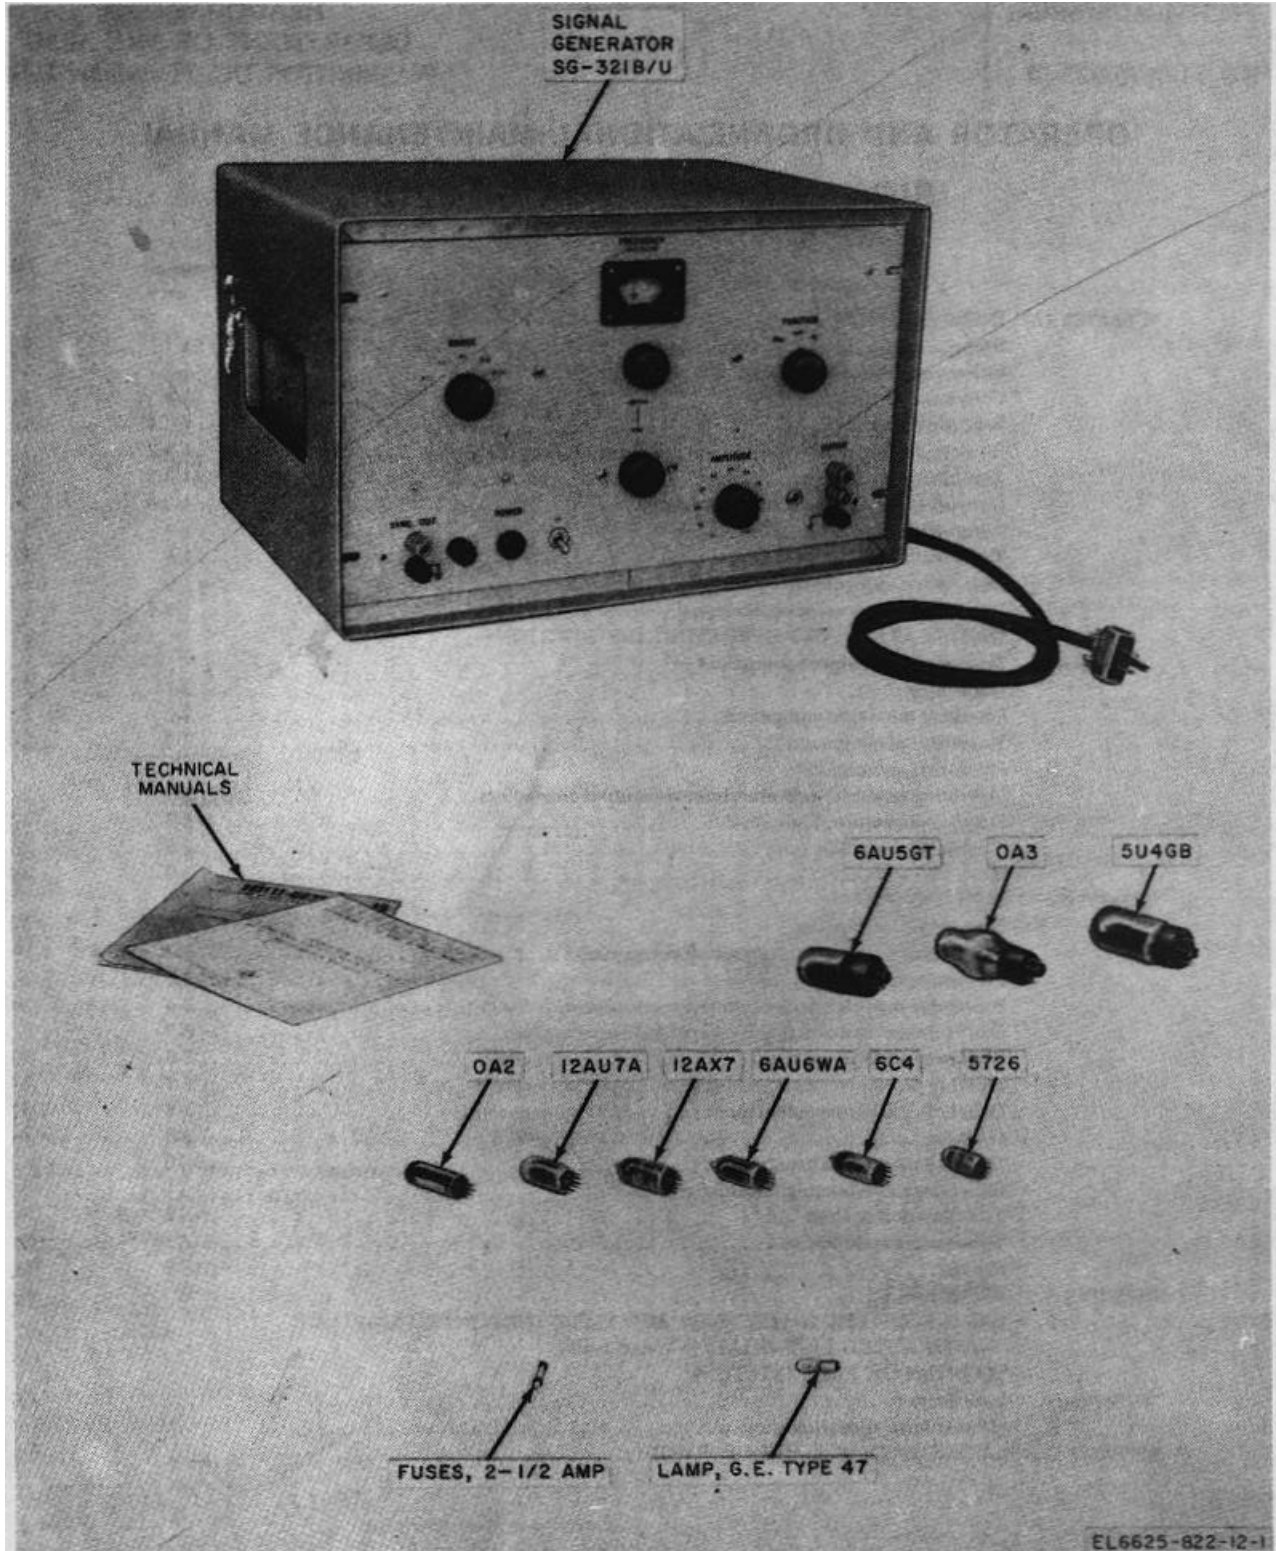

Figure 1-1. Signal Generator SC-321 B/U and running spares.
a. This manual describes Signal Generator SG-321B/U (fig. 1-1) and provides instructions for operation and operator and organizational maintenance. It includes instructions for cleaning and inspection of the equipment and replacement of parts available to the operator and organizational technician.
Signal Generator SG-321B/U (FSN 6625-674-7097) comprises an operable equipment. The SG-321B/U is illustrated in figure 1-1.